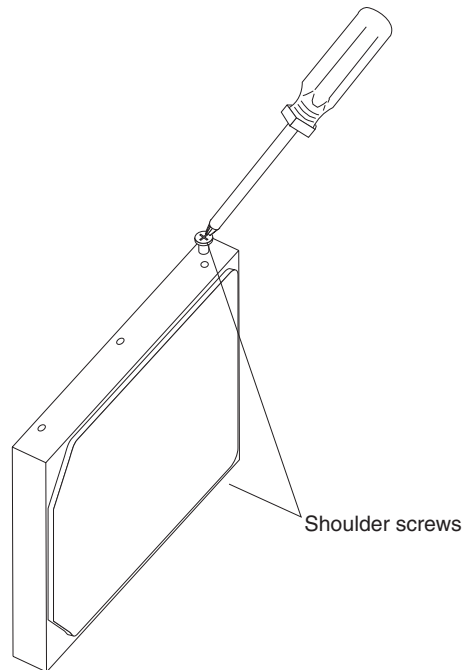

Figure 37. Bay 5 hard disk drive shoulder screws
7. If you are replacing the hard disk drive with a new drive, remove the two shoulder screws, one on each side, at the front of the drive and store them for reuse (see Figure 37 on page 105).
1. If you are replacing a removed hard disk drive with a new drive, install the two shoulder screws, one on each side, at the front of the new drive (see Figure 37).